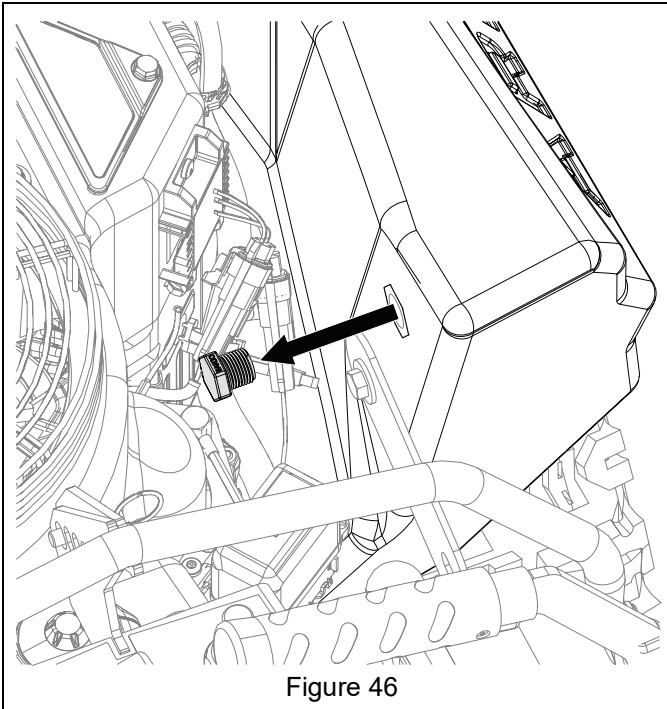

Figure 46
70. Remove and discard temporary plug from top right rear of front brine tank. See Figure 46.